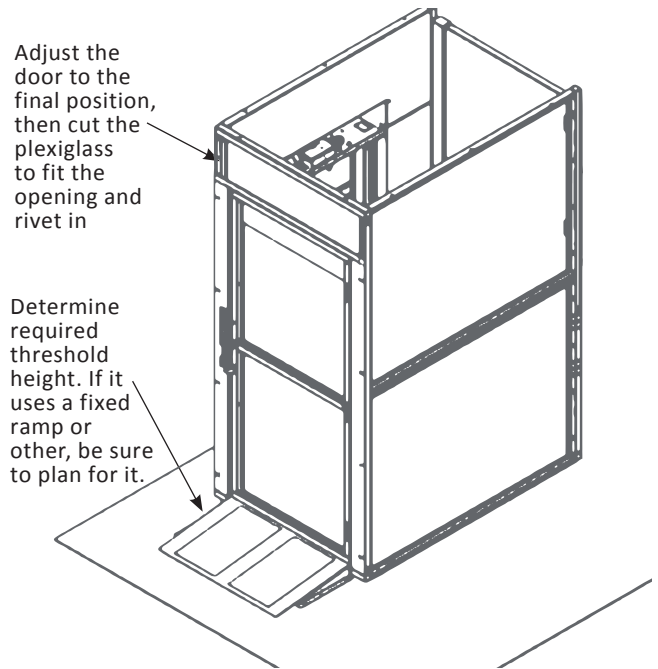

Figure 4-14
- Use the provided plexiglass above the door. Install the acrylic with the angles and flats provided, which rivet in. *See Figure 4-14.*